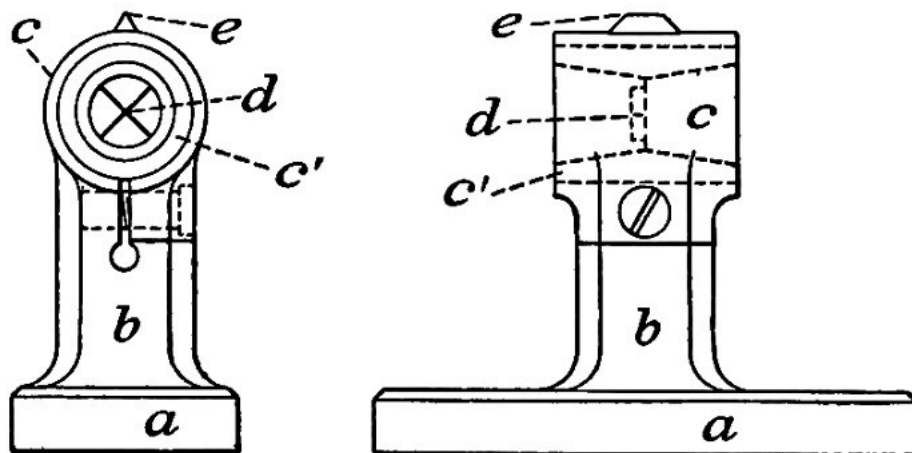

FIG. 40.
The **Front Sight** (Fig. 40) is attached to the right rim-base, and consists of the base *a*, the standard *b*, and the cylinder *c*, all formed in one piece. The cylinder *c* is a bushing open at both ends, the interior being formed of two conical frustums *c'* joined at their smaller bases and having at this junction cross-wires (+), *d*, of platinum, which give the exact centre of the sight. In the new sights the cross-wires of watch-spring are placed diagonally (X). The cross-wires are used with the peep of the breech-sight, and the point *e* on top is used with the open sight.